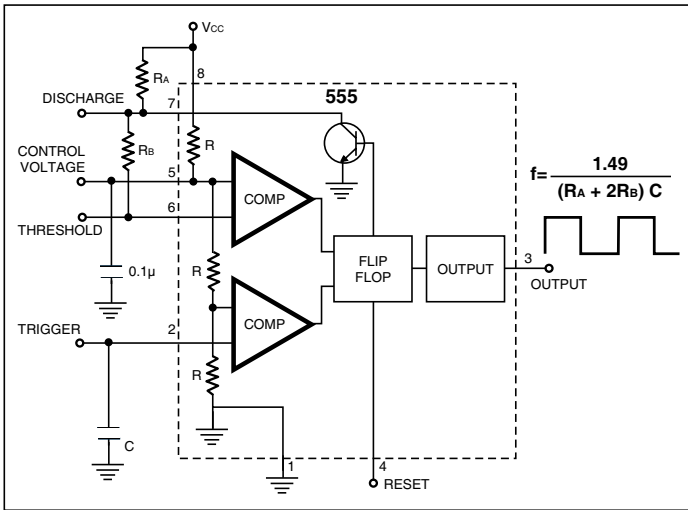

Fig. 3.4: Astable operational configuration of 555
**Astable mode:** Astable connections are shown in Fig. 3.4. The flip flop will produce continuous rectangular
where  $f$  is in Hz (cycles per second), resistors  $R_A$ ,  $R_B$  and capacitor  $C$  (shown in Fig. 3.4) are in ohms and farads respectively. A complete period comprising posi-